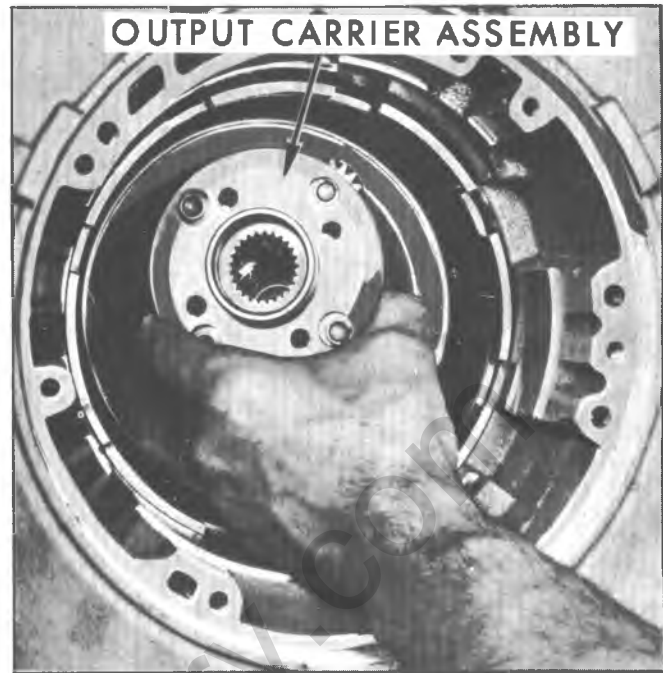

Fig. 7A-40B--Removing Output Carrier Assembly
- 10. Remove input ring gear (fig. 7A-38B).